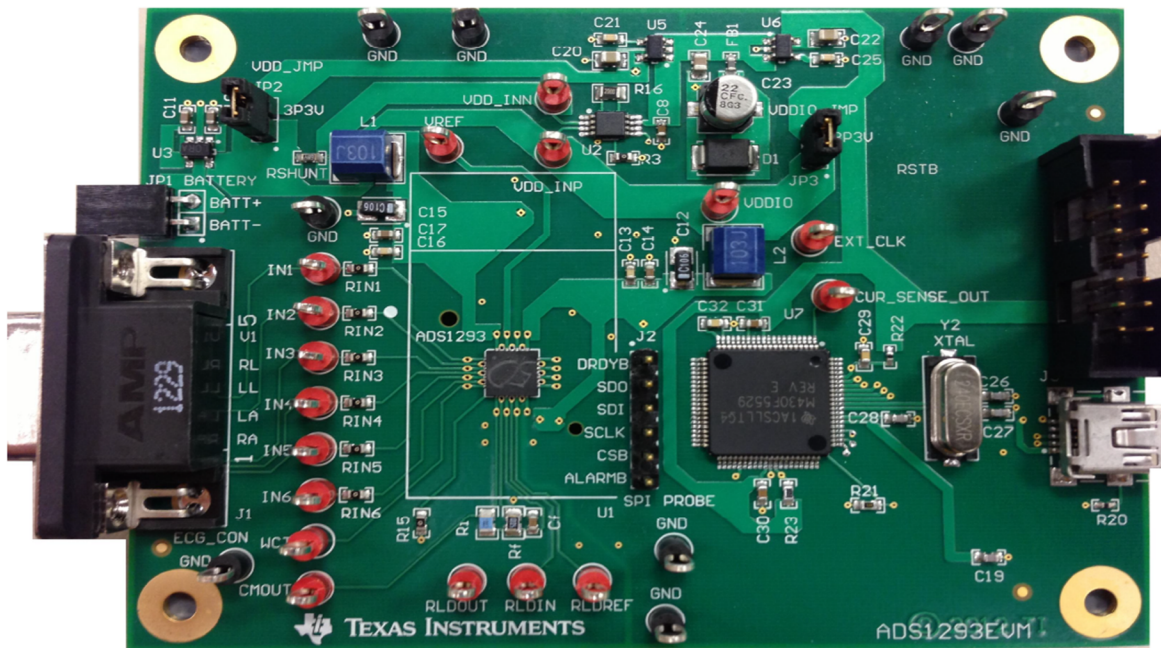

Figure 2. ADS1293EVM
9. The ADS1293 Evaluation Board can be seen in Figure 2.